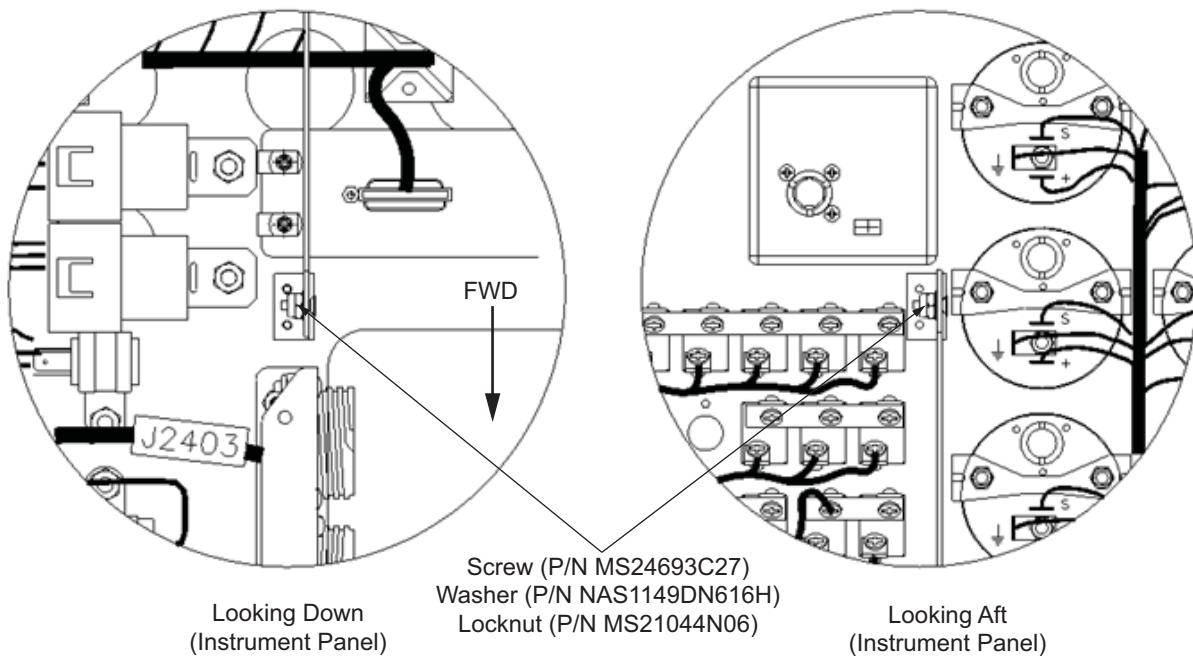

Figure 13
- 10.18 Install the support bracket (P/N 22-3424-81-00) using the screw (P/N MS24693C27), washer (P/N NAS1149DN616H) and the locknut (P/N MS21044N06). Refer to Figure 13.